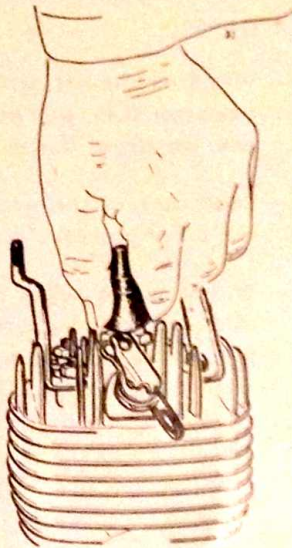

Fig. 10
- Withdraw the sparking-plug lead hood. If you experience any difficulty, proceed as follows: push the hood fully home, squeeze it at the bottom between the thumb and the forefinger and draw it upwards vertically (fig. 10).